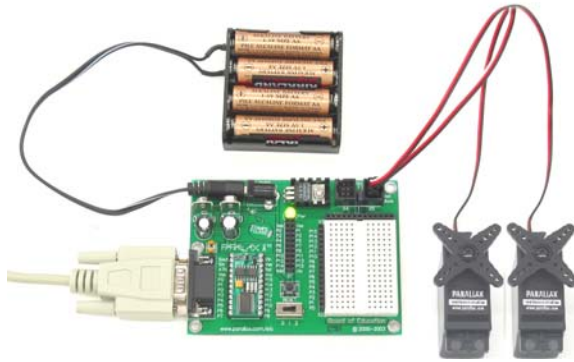

Figure 2-14
- ✓ When you are done assembling the system, it should resemble Figure 2-14. (LED circuits not shown).